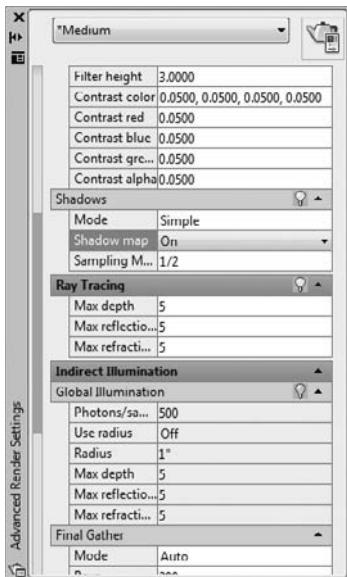

FIGURE 17.17 The Shadows settings in the Advanced Render Settings palette
3. In the Advanced Render Settings palette that appears, scroll down to the Shadows drop-down list, and make sure Mode is set to Simple and Shadow Map is set to On (see Figure 17.17).